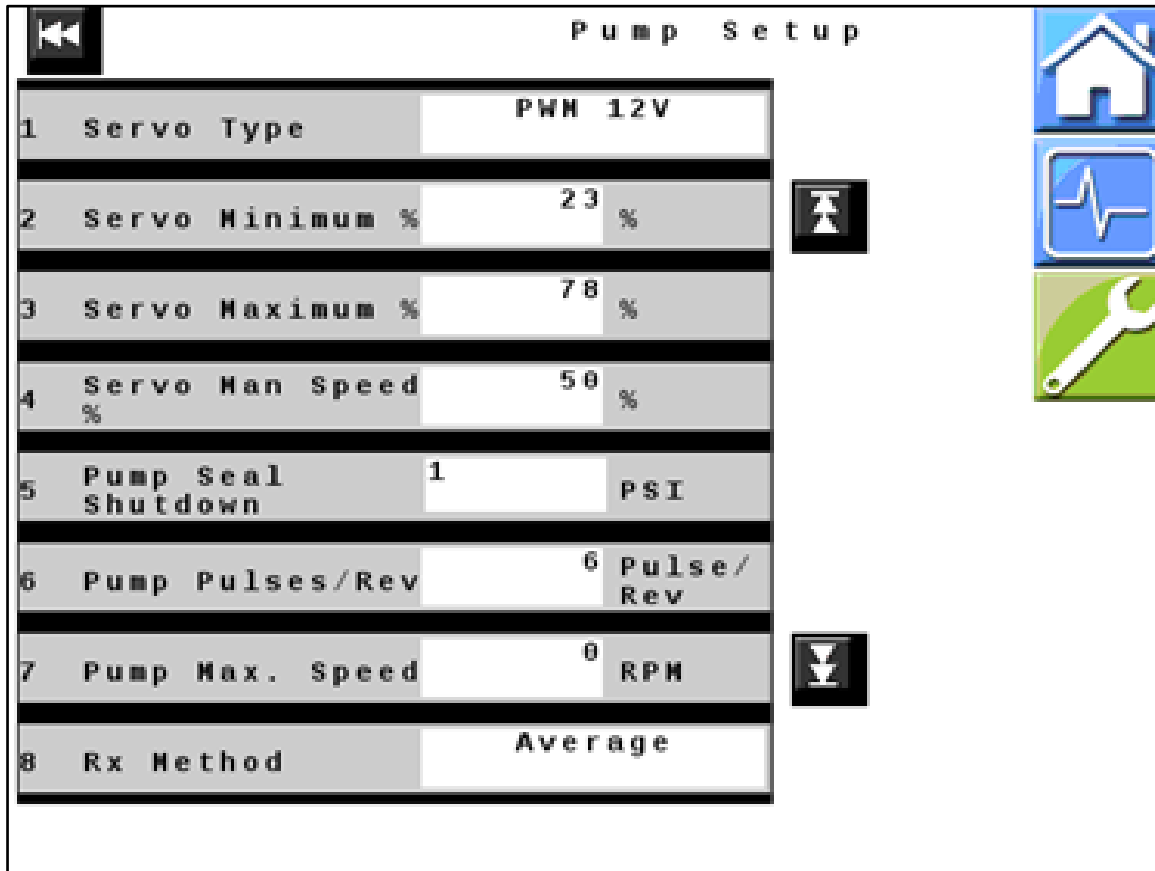

Figure 11 — Pump Setup Page 1
20. *Figure 11:* Verify that all values displayed on your unit match those shown here. Change values if necessary.